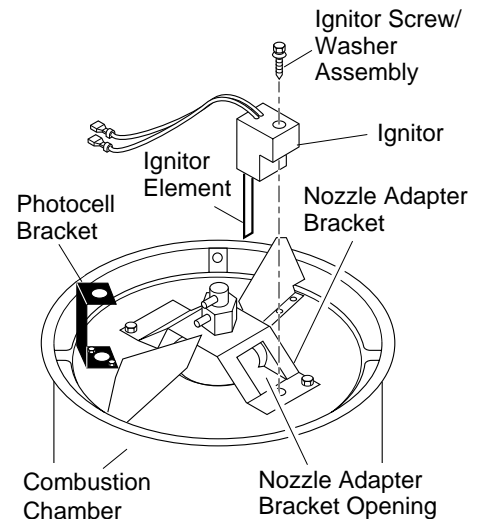

Figure 10 - Ignitor Replacement
6. Remove combustion chamber. Stand combustion chamber on end with nozzle adapter bracket on top (see Figure 10).
9. Carefully guide ignitor into opening in nozzle adapter bracket. Do not strike ignitor element. Attach ignitor to nozzle adapter bracket with screw using a 1/4" nut driver (see Figure 10). Torque 8 to 15 in. lbs. Do not over torque.